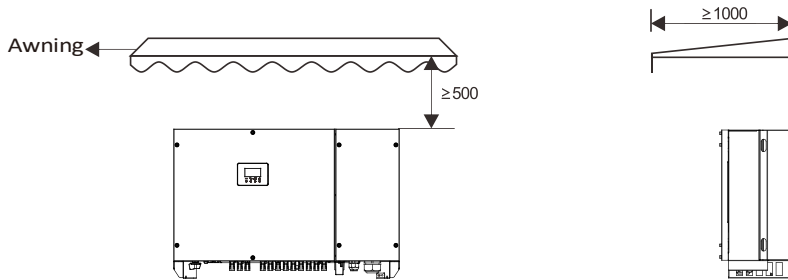

Figure 4.2 Installation environment with awning (unit: mm)
- ⦿ The inverter must be free from direct exposure to sunlight, rain, and snow to extend its service life. It is recommended that the inverter be installed in a sheltered place. If no shelter is available, build an awning, as shown in Figure 4.2